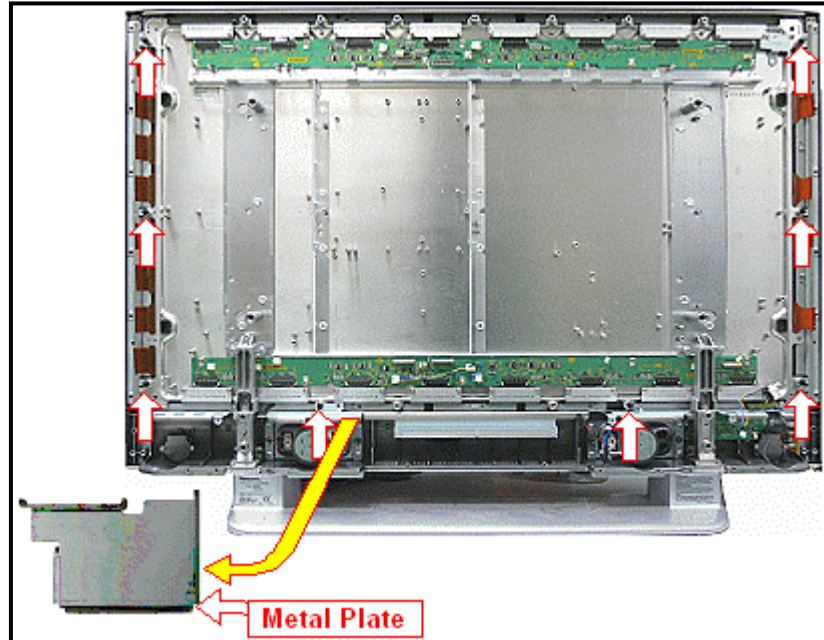

Figure 24. Removal of Front Escutcheon
1. Remove the 8 screws as indicated in figure 24.